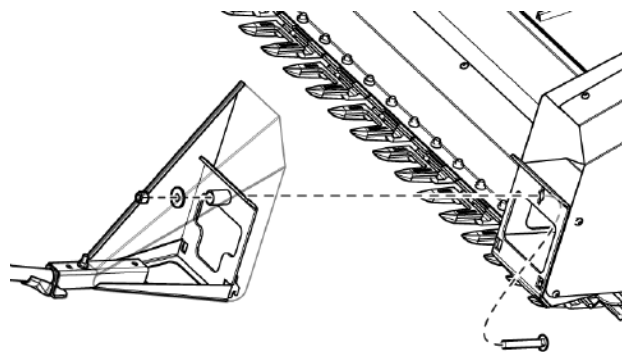

Fig. 41 - Install Crop Divider
Ensure the crop dividers are properly installed & free from material buildup. (See Fig. 41 on page 35)
- ☐ Ensure the crop dividers are properly installed & free from material buildup. (See Fig. 41 on page 35)